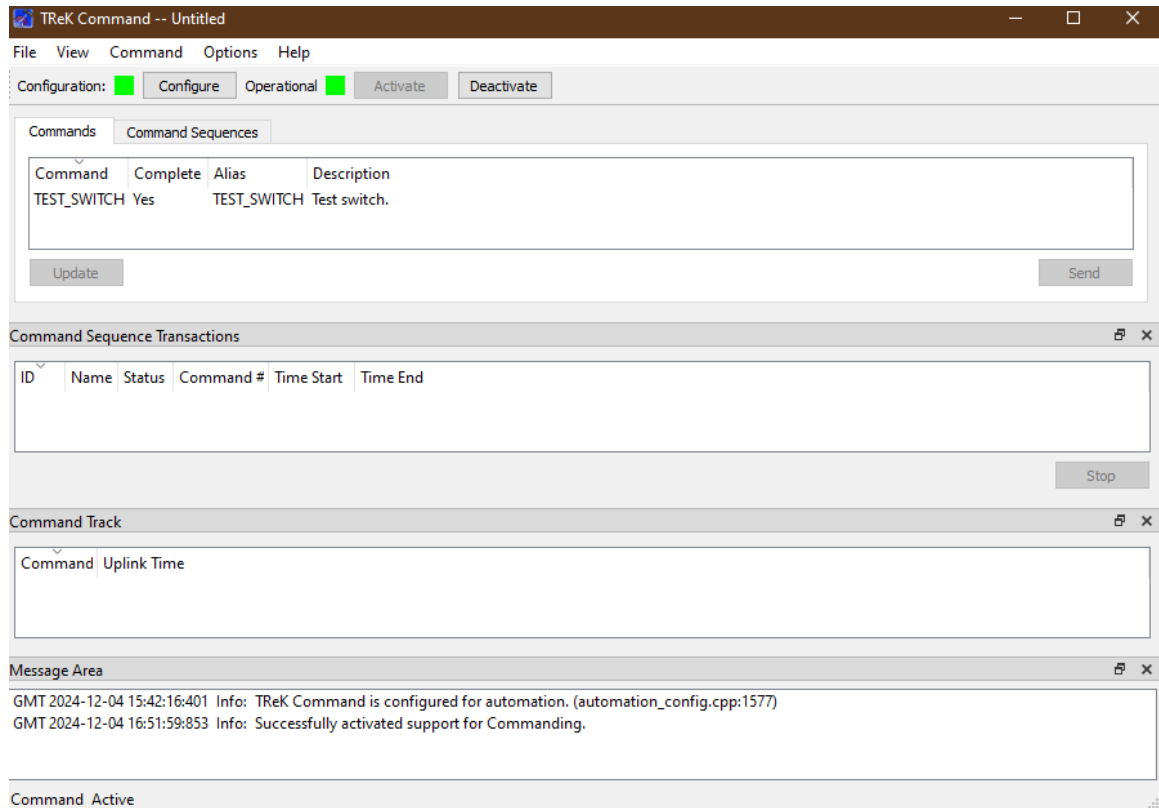

Figure 11 Active Command Service
9. Push the Activate button in the Main Window toolbar to activate the Command service. Once the service is active you should see the Operational status turn green as shown in Figure 11.